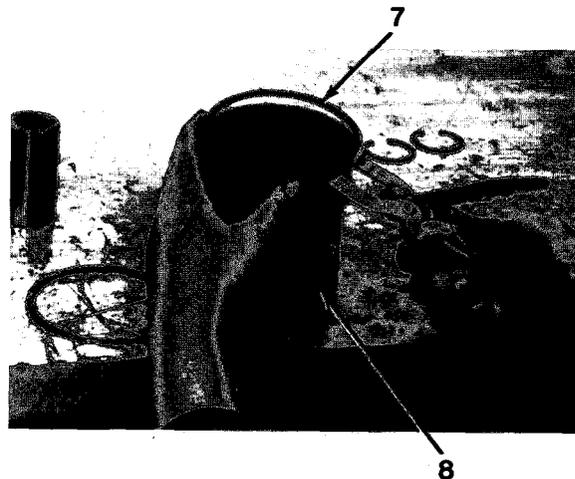

Figure 6-8
- Using a piston ring expander, remove three piston rings (7) from piston (8, Figure 6-8).